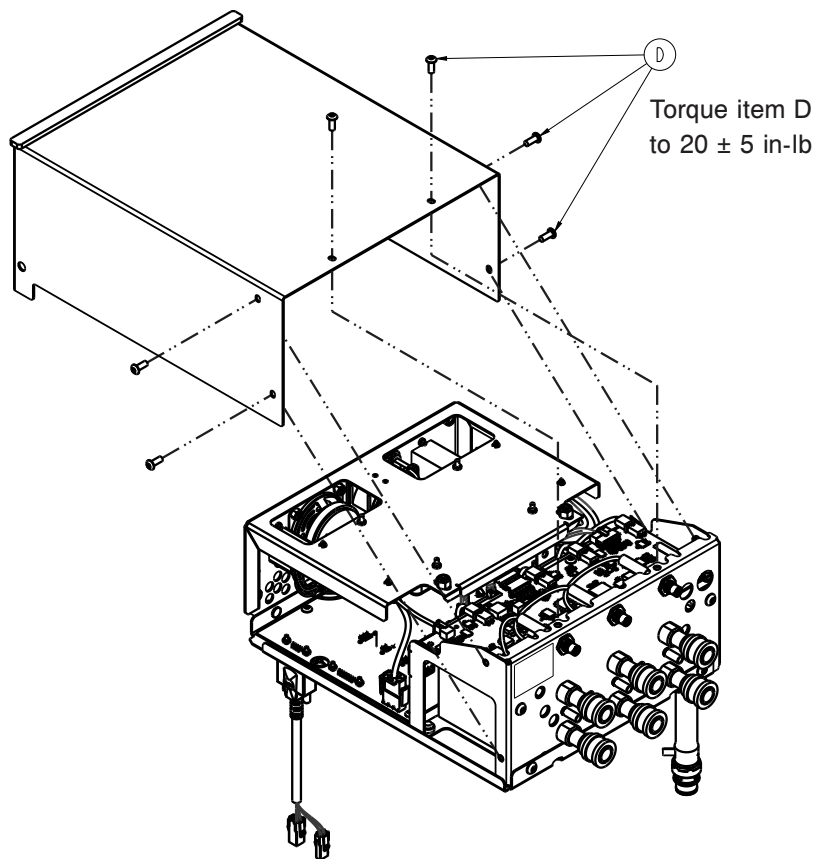

Figure 30 – Control box cover
6. Using a T25 torx, remove the 6 screws (D) that secure the control box cover (Figure 30).